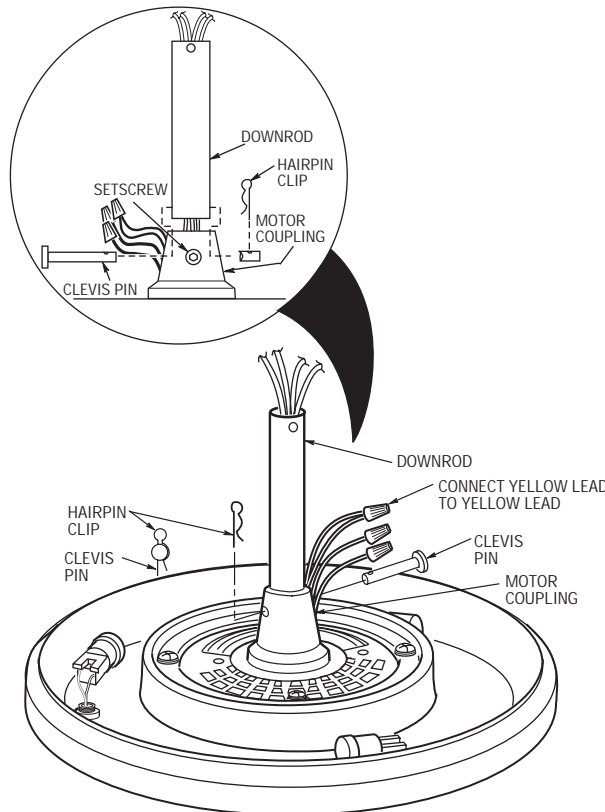

Figure 16
- 6. Using the wire connector supplied, connect the upright yellow lead assembly to the yellow lead from the fan motor and housing assembly (Figure 16).
- 7. Route the white, blue, and black motor leads through the downrod. Fold the yellow, red, and brown wires into the slot in the motor coupling, slide the downrod down the wires and seat the downrod in the motor coupling (Figure 16).
- 8. Align the clevis pin holes in the downrod with the holes in the motor coupling. Install the clevis pin and secure with the hairpin clip (Figure 16). The clevis pin must go through the holes in the motor coupling and the holes in the downrod. Push the straight leg of the hairpin clip through the hole near the end of the clevis pin until the curved portion of the hairpin clip snaps around the clevis pin. The hairpin clip must be properly installed to prevent the clevis pin from working loose. Pull on the hanger ball to make sure the clevis pin is properly installed.